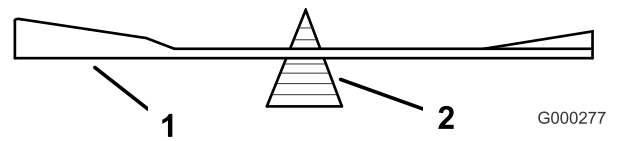

Figure 93
2. Check the balance of the blade by putting it on a blade balancer (Figure 93).
3. If the blade is not balanced, file some metal off the end of the sail area only (Figure 93).